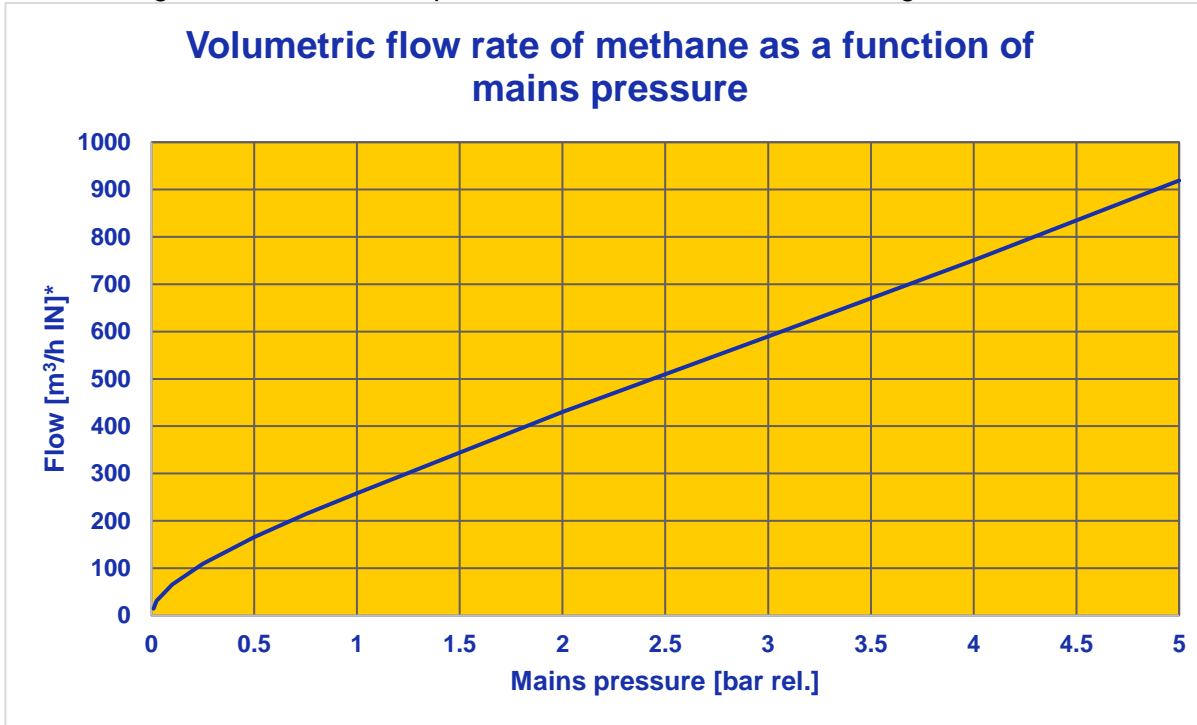
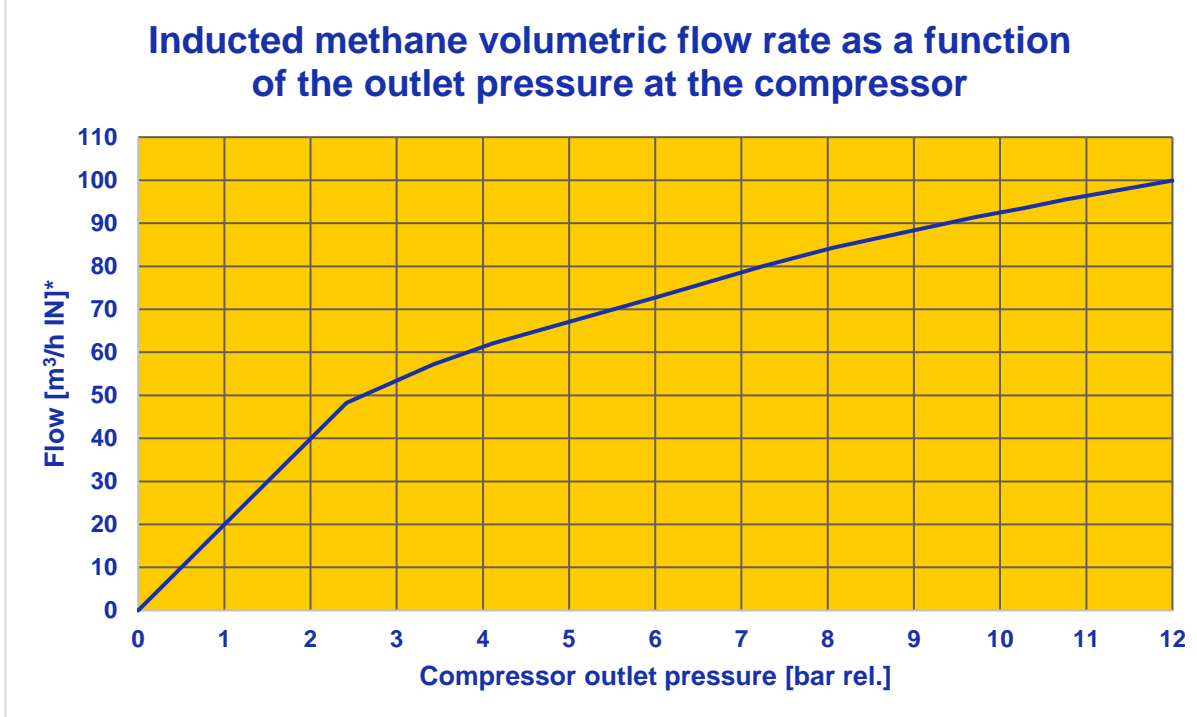

Figure 4: *Volumetric flow rate of methane as a function of mains pressure*
Figure 5: *Relationship between inducted methane volumetric flow rate and the compressor outlet pressure at the compressor*
- Volumetric flow: See charts (Figure 4: and Figure 5: on page 8)
* Explanation of Y axis in Figure 4: and Figure 5: